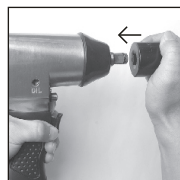

Figure 2
5. Choose the correct impact socket (not provided) as needed and mount it onto the anvil (B). (See Figure 2)